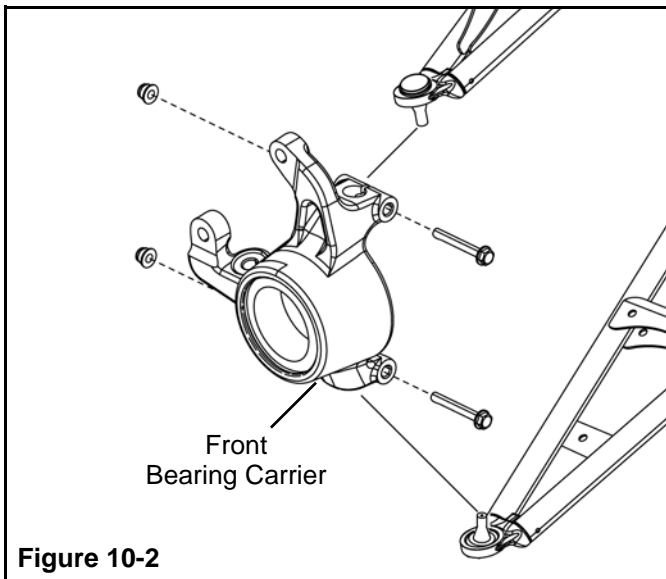

Figure 10-2
3. Remove the upper ball joint pinch bolt from the front bearing carrier (see **Figure 10-2**).
14. Remove the lower ball joint pinch bolt from the front bearing carrier (see **Figure 10-2**).
23. Grease all (4) A-arm grease fittings after reassembly.